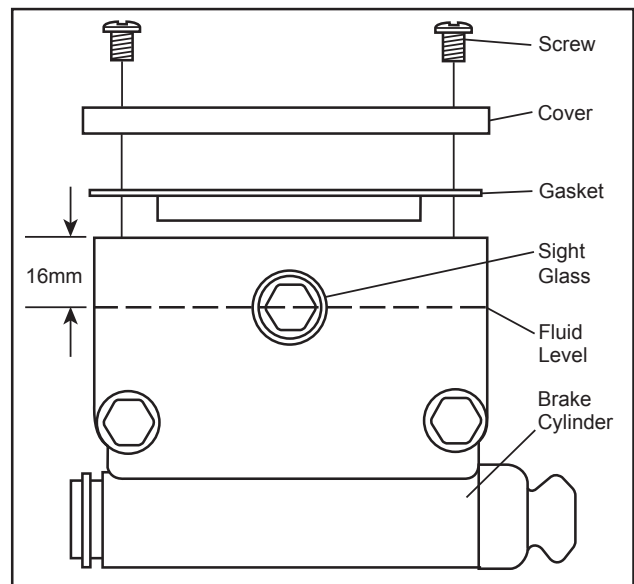

Figure 7-9. Hydraulic brake cylinder and fluid level
1. Add only fresh clean SILICONE - DOT 5 BRAKE FLUID (ARGO Part No. 126-19) to 5/8" (16 mm) from the top edge or half way on sight glass (Figure 7-9).